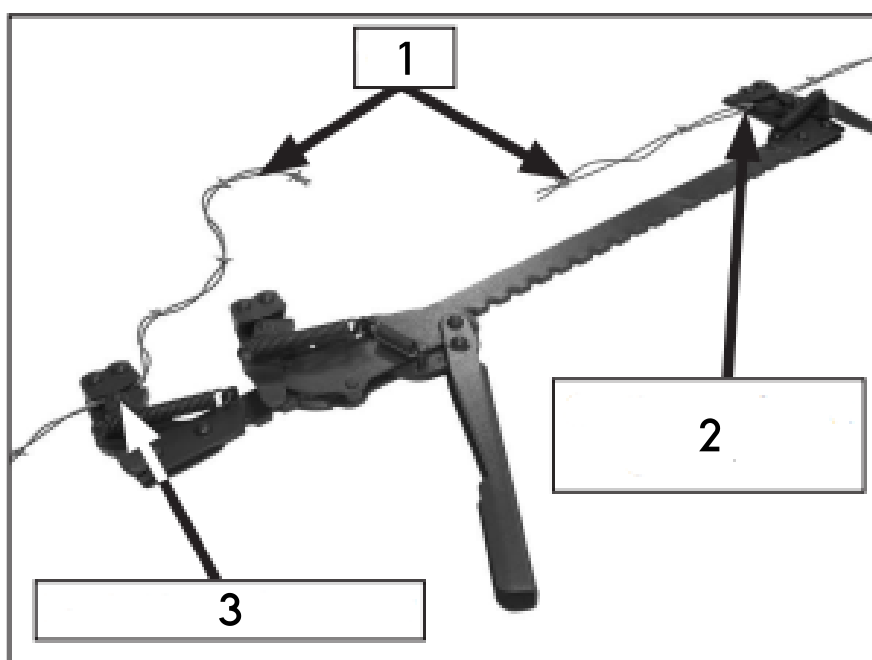

Figure 5
1. Clamp one of the wire in the fixed hook of the clamping jaw. Clamp the other wire in the mobile hook of the clamping jaw (Fig. 5).